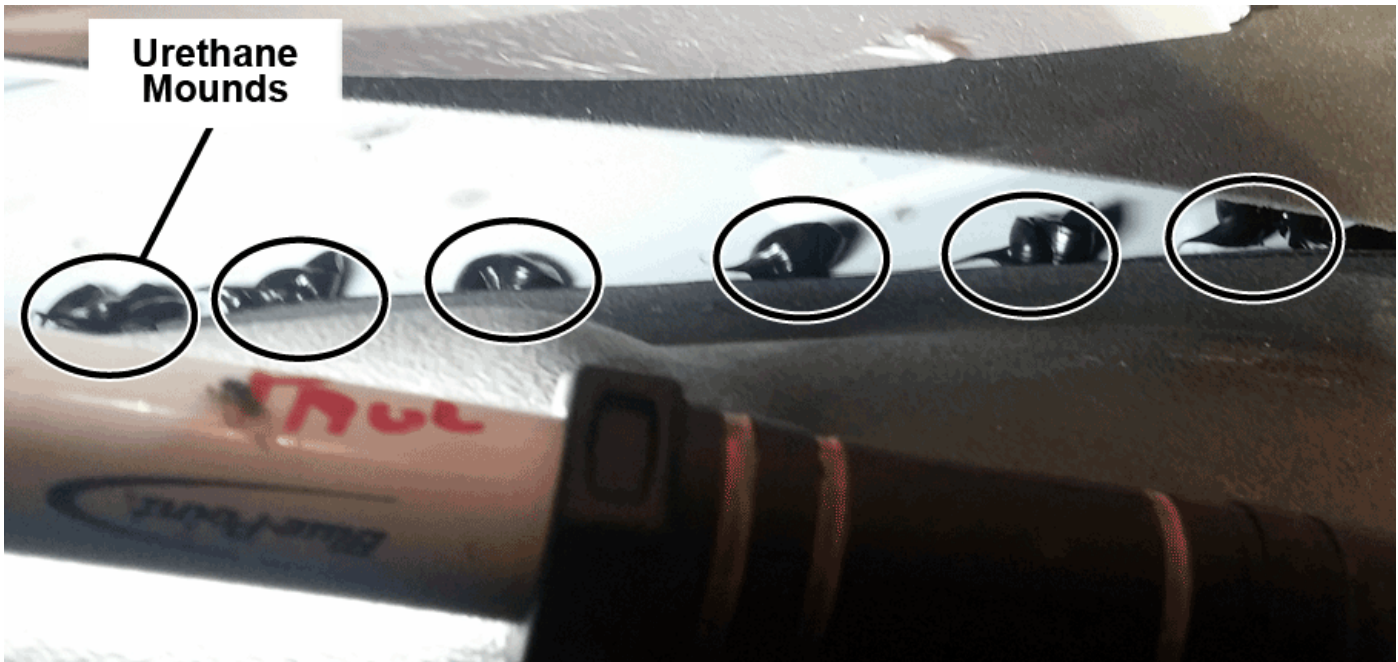

Figure 3: Apply Urethane
4. Apply 3M™ Fast Cure Auto Glass Urethane 08690 on the short floor rib and in 6 separate mounds approximately 1/2" high along the edge of the drivers side flooring (See Figures 3 & 4).